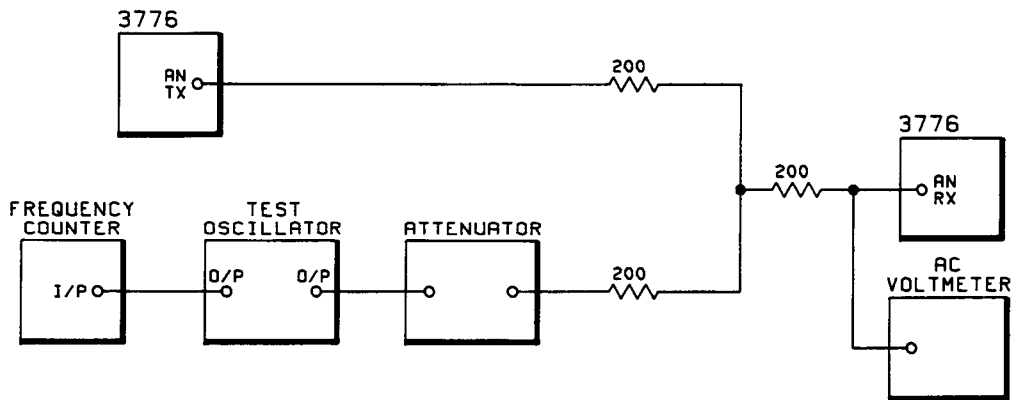

Figure 4-5 3776A Impulse Noise Threshold Range and Threshold Accuracy Test Circuit.
1. Connect the equipment as shown in Figure 4-5.